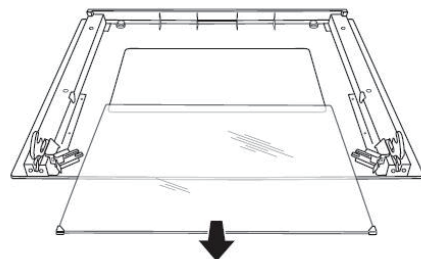

Figure 3
3. At this point, it is possible to remove the intermediate glass (or third glass), first lift it in the lower part (taking care not to lose the rubbers mounted in the two lower corners) and then carefully remove it in the direction of the arrow (Figure 3)